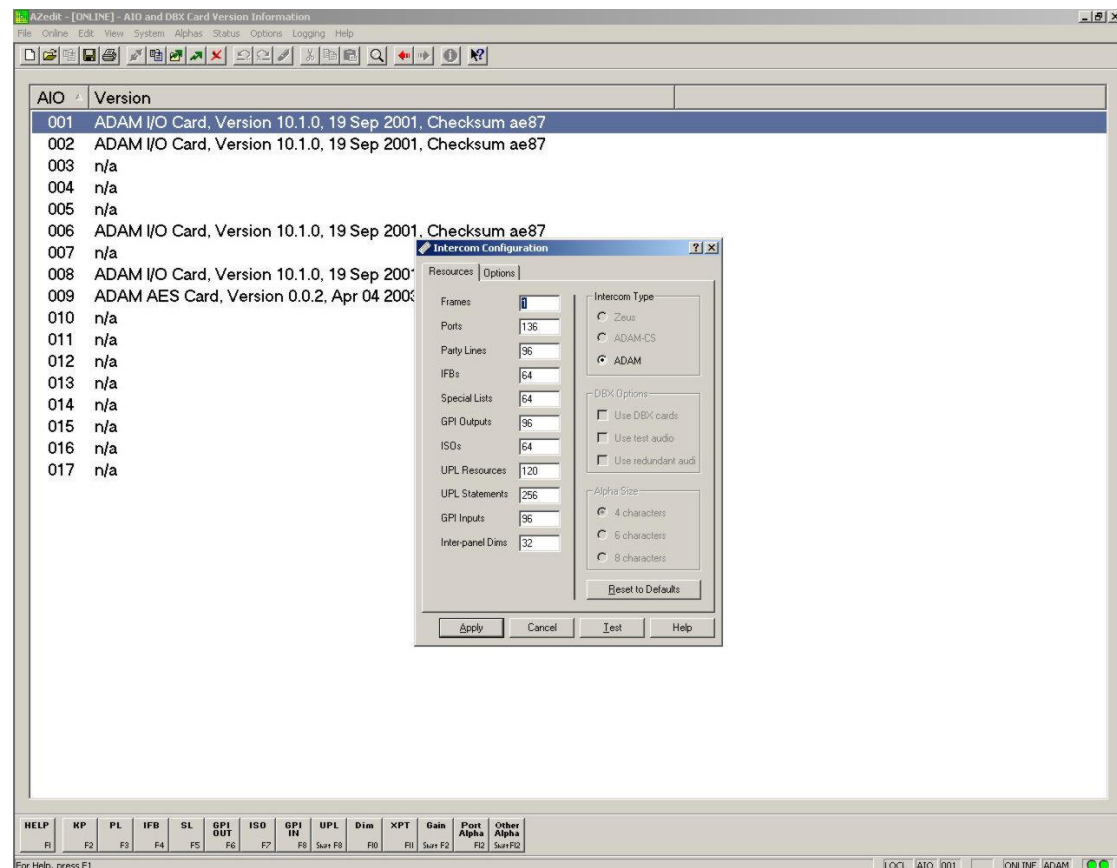
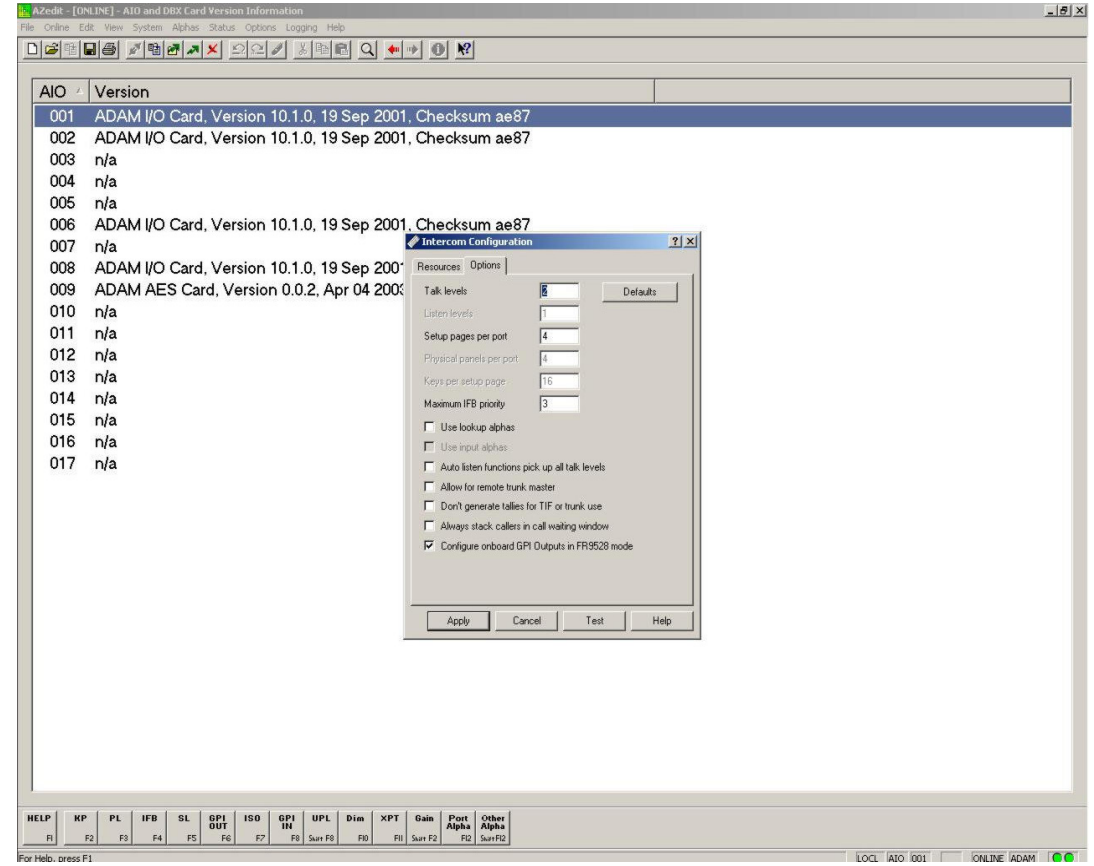

Figure 2. Set up frame size and DBX options (steps 9,19, 20)
Figure 4. Set up Options page (steps 10, 20)
10. Check "use DBX cards" in Options/Intercom Configuration/Resources, if not already detected, always check "use test audio". You can also "use redundant audio" only if it is appropriate for the system being set up]. (fig. 2) Also check Options page to be sure number of talk levels, remote trunk master (*not to be confused with local trunking*), and other options are set now, otherwise the system will first birthday again if you need to change them later. (fig 4)
21. Resize to new final system size under Options/Intercom Configuration. Default is 3 frame redundant audio system. (fig. 2)
22. Check "use DBX cards" in Options/Intercom Configuration/Resources, if not already detected, always check "use test audio". You can also "use redundant audio" only if it is appropriate for system being set up].(fig. 2) Also check Options page to be sure number of talk levels, remote trunk master (*not to be confused with local trunking*), and other options are set now, otherwise the system will first birthday again if you need to change them later. (fig. 4)